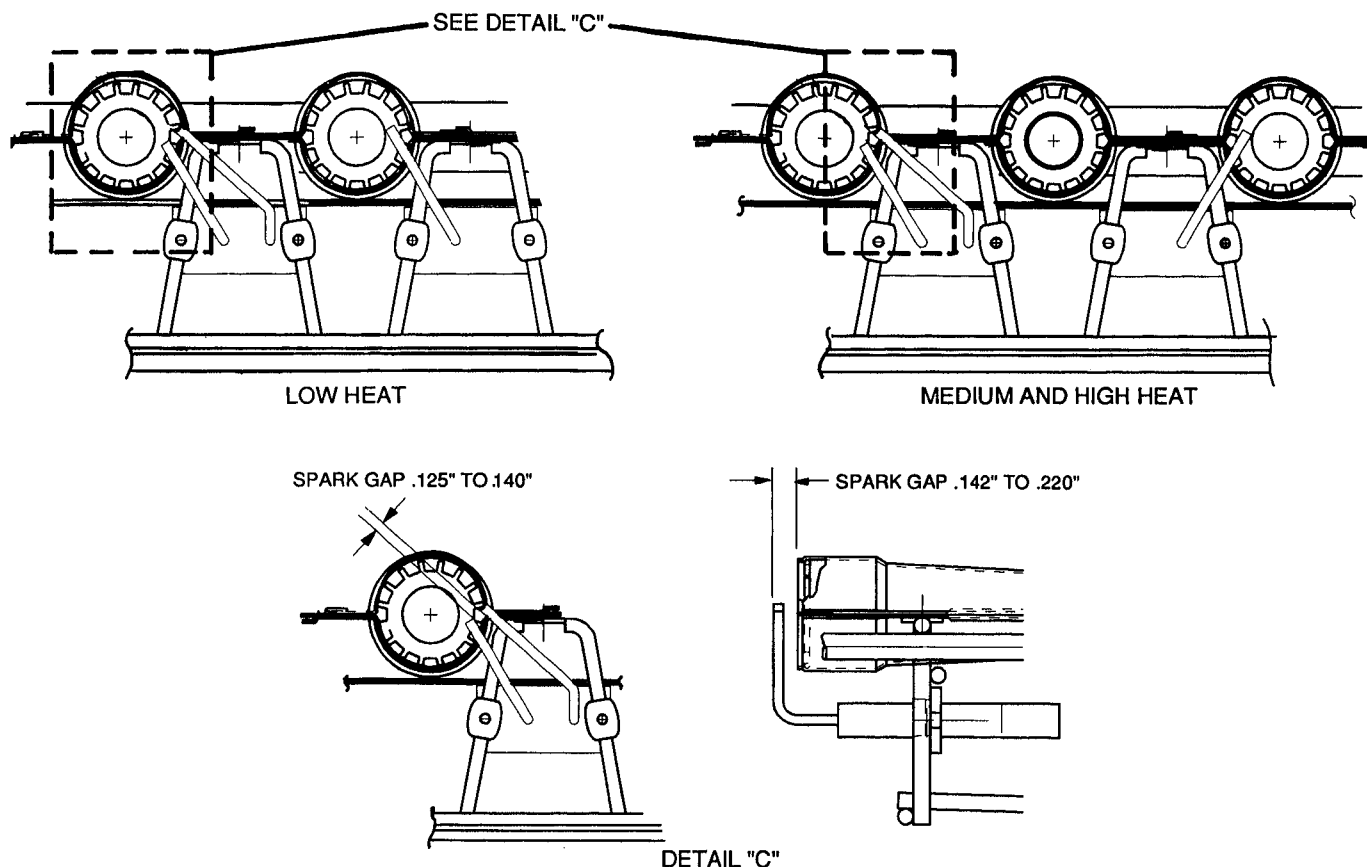

Fig. 40 — Spark Adjustment
4. Adjust spark gap. See Fig. 40.